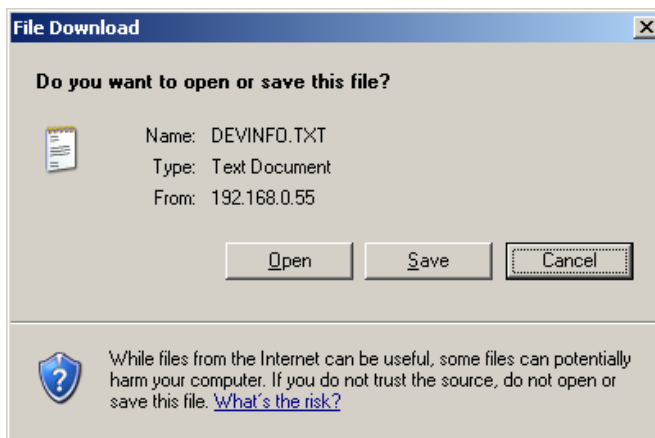

Figure 6-6 File Download Dialog, Save .TXT
- ✧ In the **File Download** dialog (see Figure 6-6), click the **Open** button.